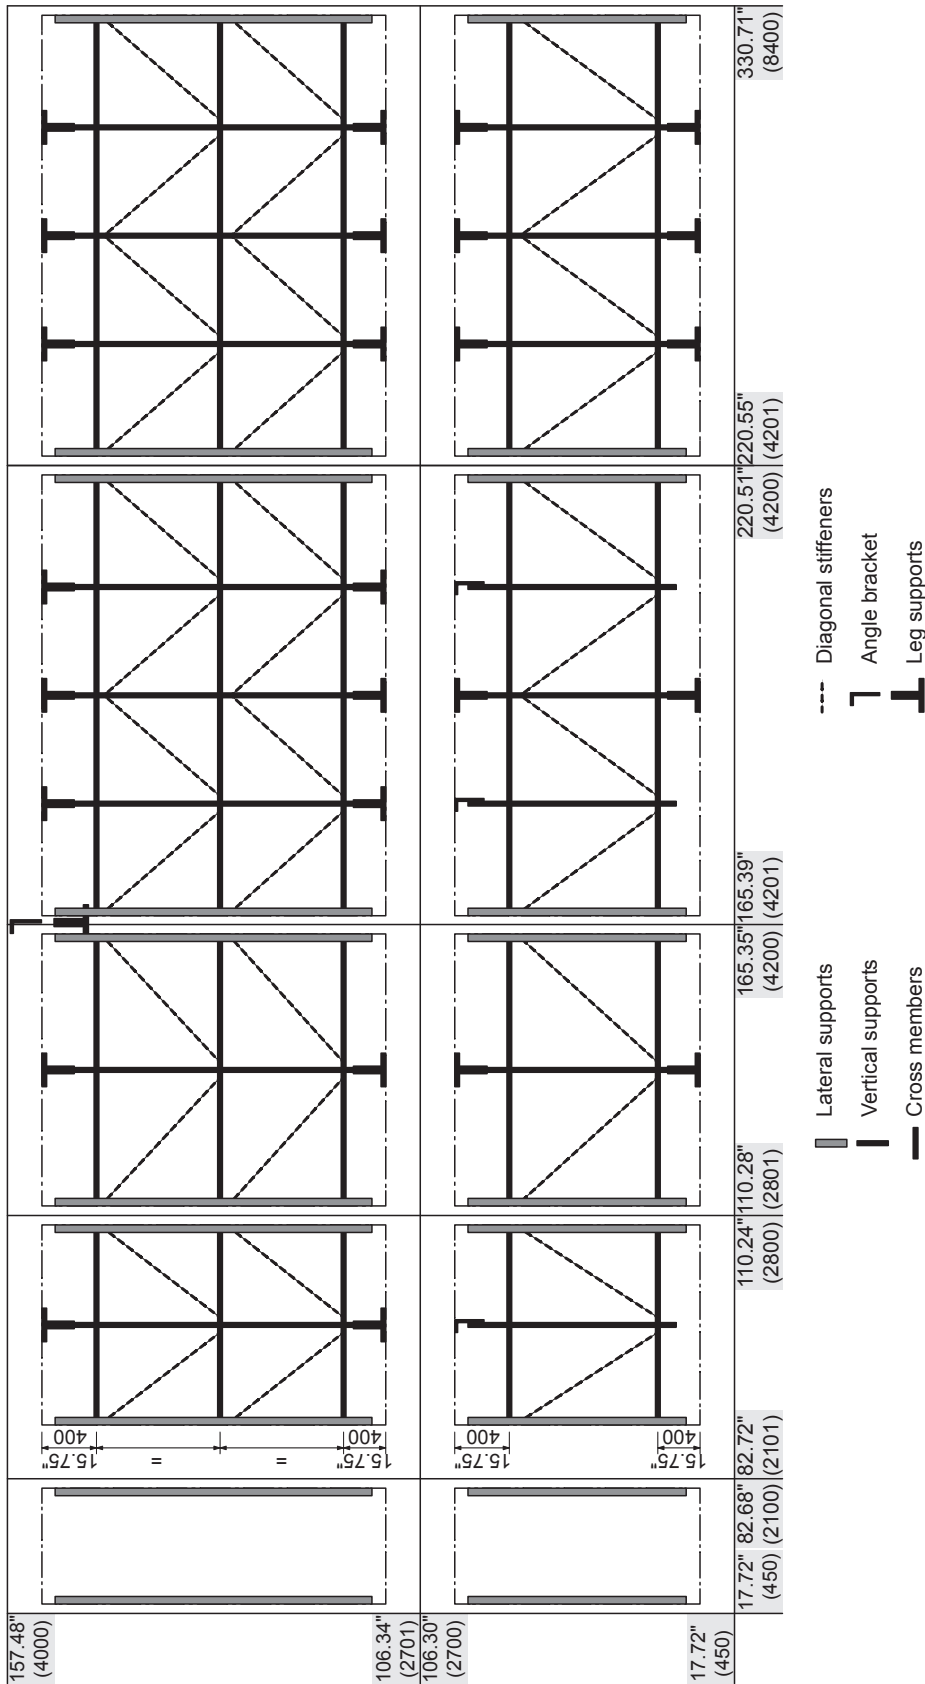

Fig. 4: Overview frame constructions post-evaporation unit - duct inner dimensions in Inch (mm)
**Important:** on systems with a width >110.24" (>2800 mm) some or all vertical supports of the post-evaporation unit are supported to the duct/AHU ceiling and to the duct/AHU floor with special leg supports (see Fig. 4). On systems with a width >177.2" (>4500 mm) additionally the vertical support of the nozzle unit is supported to the duct/AHU floor with a special leg support (see Fig. 24). Make sure the mounting surface on the duct/AHU floor (or tub) and on the ceiling of the duct/AHU where the legs supports are mounted to is equipped with a reinforcement traverse.